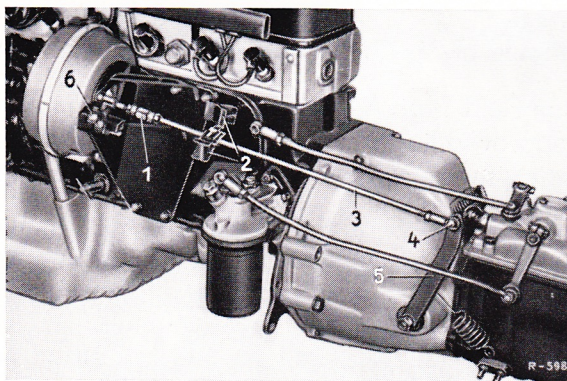

Fig. 25-0/14
The free play of the mechanical clutch is adjusted at the turnbuckle (1) of the pull-rod (3) from the servo assembly to the throw-out lever (5) of the clutch (Fig. 25-0/14).